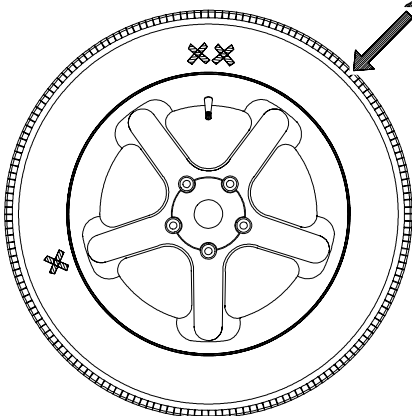

Figure 30
1. The machine displays "**VAL tOP**". Turn the wheel so the valve is at top position. (12 o'clock) and then press F Button. The machine stores the valve position. See Figure 30.